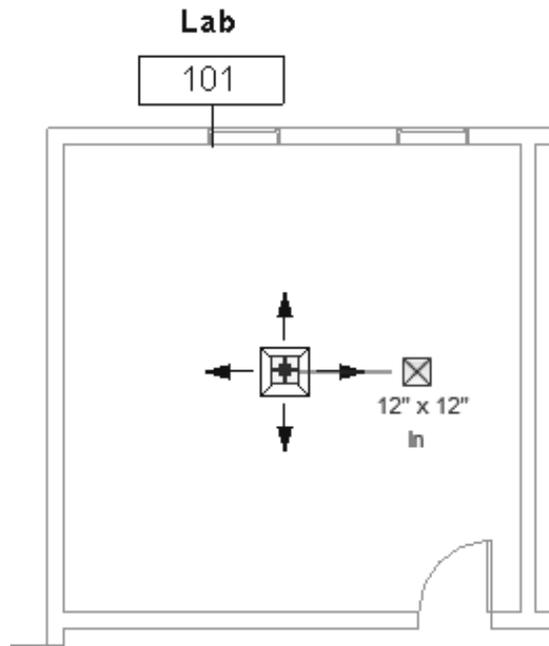

Figure 2–21
- Click near the center of room **Lab 101**, as shown in Figure 2–21.